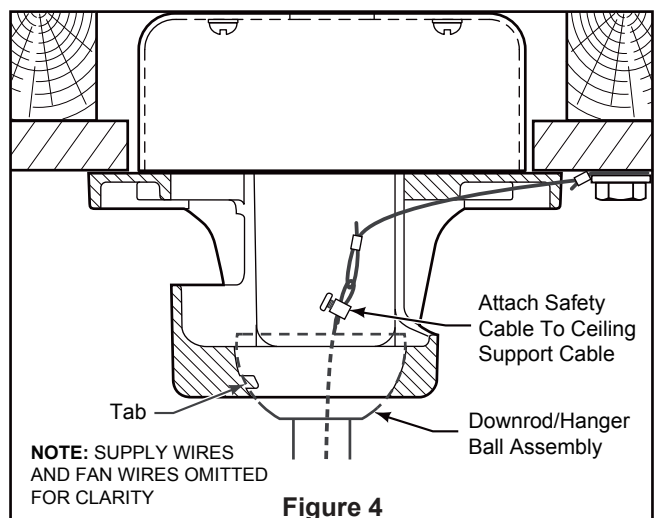

Figure 4
- ☐ 5. Attach the safety cable to ceiling support cable. Slide cable clamp and washer onto safety cable (from fan). Place the end of cable through the loop of ceiling support cable. Pull as much cable through loop as possible. Feed end of cable into clamp hole and firmly tighten screw. (Figure 4)